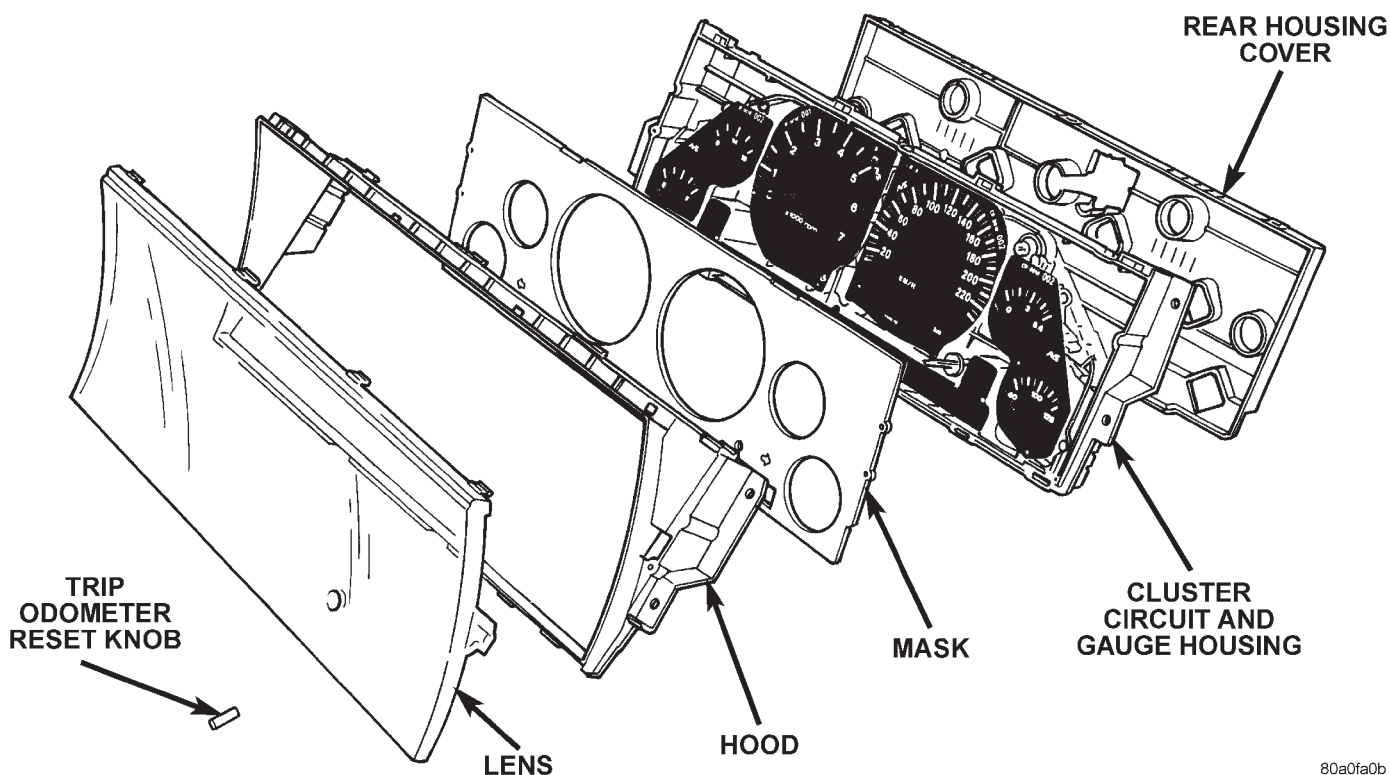

Fig. 7 Instrument Cluster Components
- (1) Disconnect and isolate the battery negative cable.
- (2) Remove the trip odometer reset knob from the trip odometer reset switch stem. See Trip Odometer Reset Knob in this group for the procedures.
- (3) Remove the instrument cluster from the instrument panel. See Instrument Cluster in this group for the procedures.
- (4) Work around the perimeter of the cluster depressing the snap clips that secure the cluster lens to the cluster hood, and gently pull the lens away from the cluster (Fig. 7).
- (5) Reverse the removal procedures to install.
- (2) Remove the cluster lens from the instrument cluster. See Cluster Lens in this group for the procedures.
- (3) Work around the perimeter of the cluster depressing the snap clips that secure the cluster hood to the cluster housing, and gently pull the hood away from the cluster (Fig. 7).
- (4) Lift the cluster mask off of the locating pins on the front of the cluster housing.
- (2) Remove the instrument cluster from the instrument panel. See Instrument Cluster in this group for the procedures.
- (3) Work around the perimeter of the cluster releasing the snap clips that secure the rear cover to the back of the cluster housing, and gently pull the rear cover away from the cluster housing (Fig. 7).
- (4) Reverse the removal procedures to install.